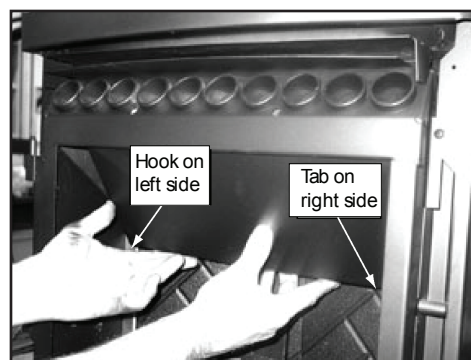

Figure 35.2
- The top baffle has a hook on the bottom left side that rests on the top lip of the cast brick. There is a tab on the bottom right side that hooks into the side bracket. Remove the top baffle by first pulling the baffle forward until back edge drops down. Then slide baffle back until the front edge clears the shelf that it had been resting on. **Figure 35.2**